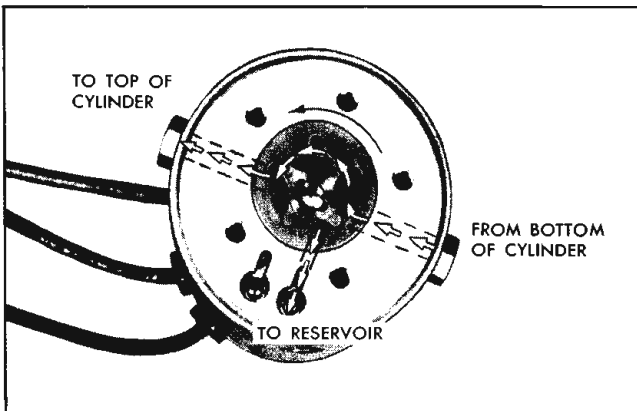

Fig. 22-62 Pump Operation-Lower Top
2. Lowering the Top. When the green motor lead is energized the motor drive shaft turns the rotors counter-clockwise as indicated by the large arrow in Fig. 22-62. The action of the pump rotors forces the fluid under pressure to the top of each cylinder. This action causes the fluid below the piston in each cylinder to be forced into the pump which recirculates the fluid to the top of each cylinder. The surplus hydraulic fluid due to piston rod displacement flows into the reservoir.